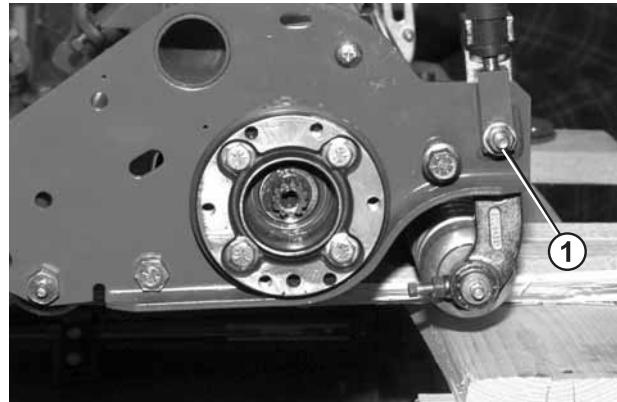

Figure 10.3.1
2. Loosen the locking nut on one of the front roller adjusting brackets just enough to allow adjustment (See Fig. 10.3.1).